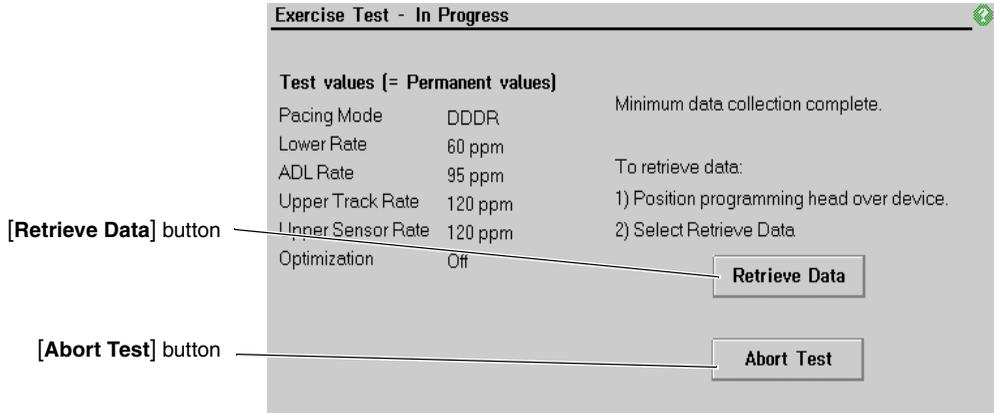

Figure 8-2. Retrieving Exercise Test data
5. Select the **[Retrieve Data]** button (see Figure 8-2). After the programmer retrieves the data from the pacemaker, the programmer opens the Results screen.